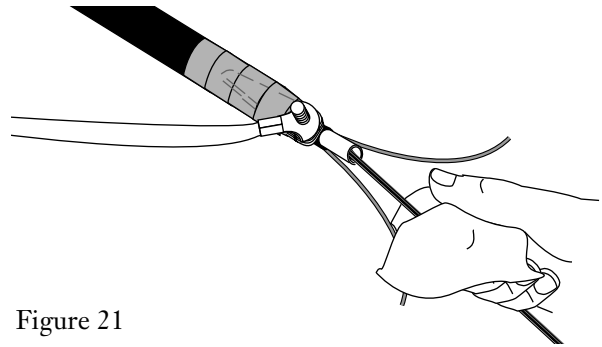

Figure 21
- 6.4** If necessary, wipe the ribbons with a dry, lint free cloth or tissue (Figure 21).